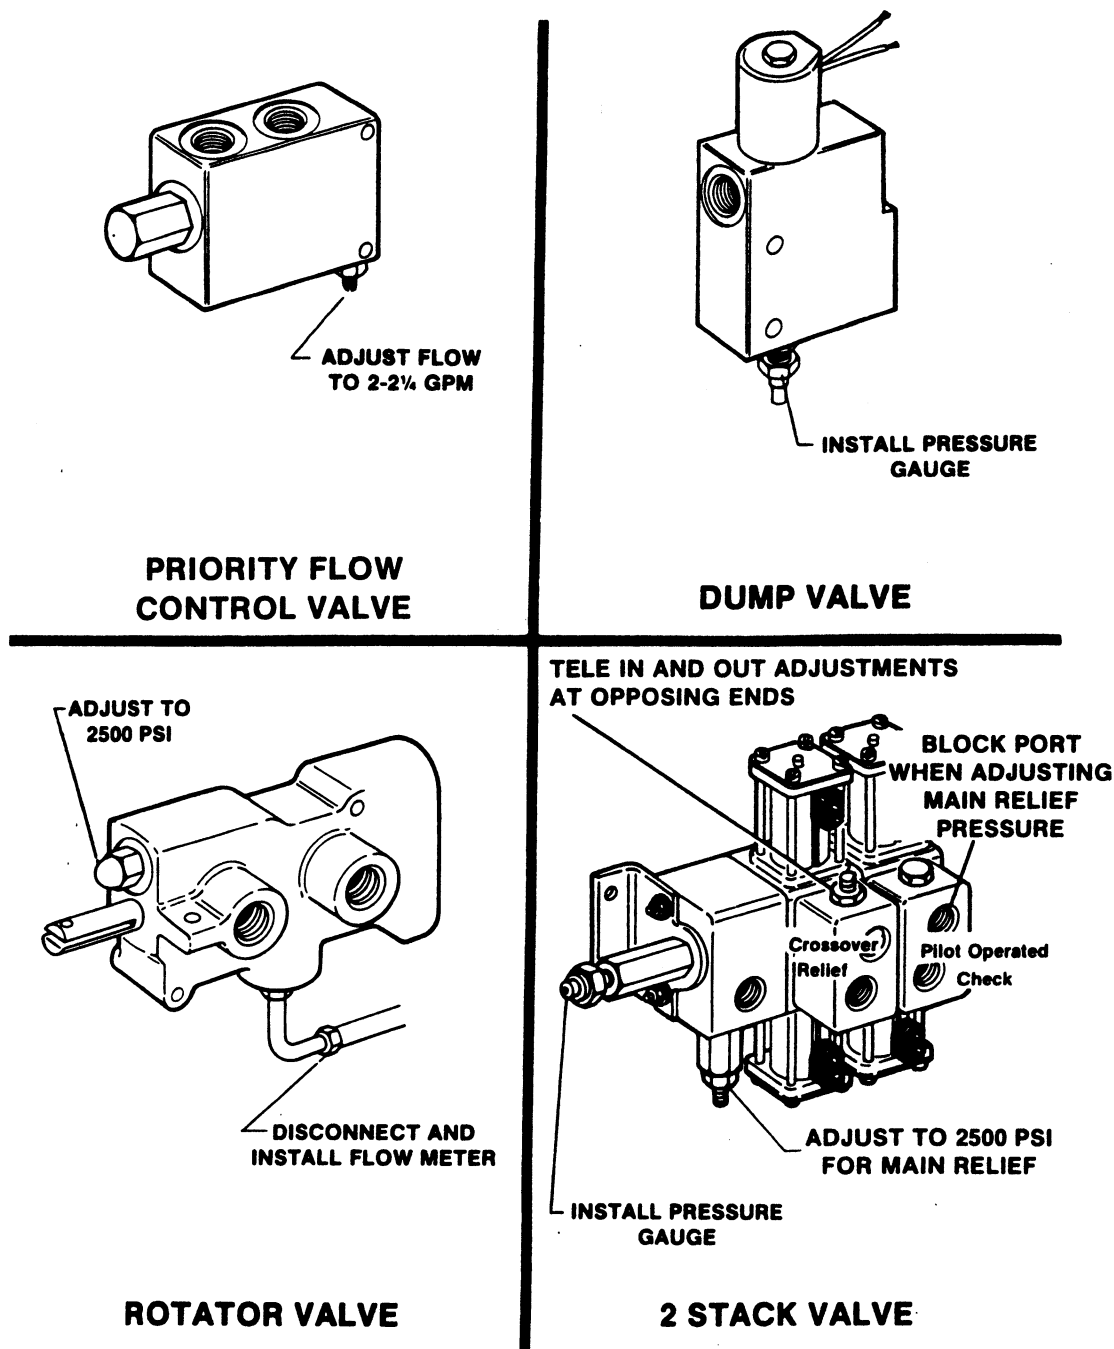

Figure 2-10. Pressure and Flow Settings (with Steering Wheel).
- c.** Pressure and flow adjustment points for machines with steering wheels are shown in Figure 2-10.